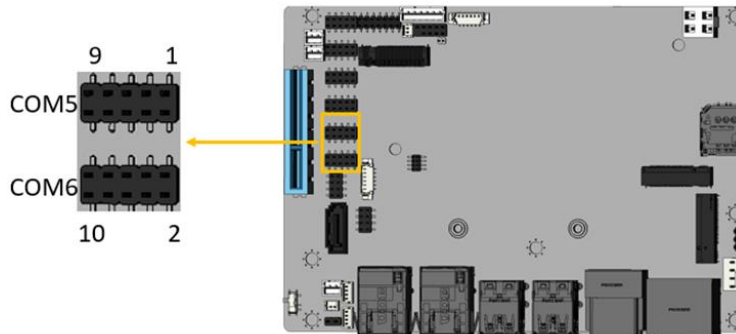

Figure 3-16: RS-232/422/485 Serial Port Connectors Location
- CN Location:** See **Figure 3-16**